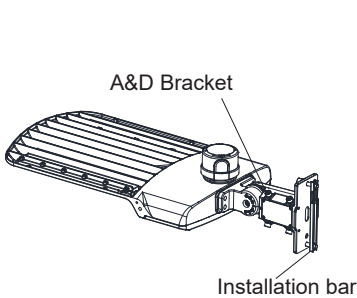

Figure 15
Step 1: Remove the four bolts from ADM bracket, remove the four rubber plugs from installation bar, put the four rubber plugs on the place where the four bolts were previously placed on the bracket for waterproof purpose(Figure 15)